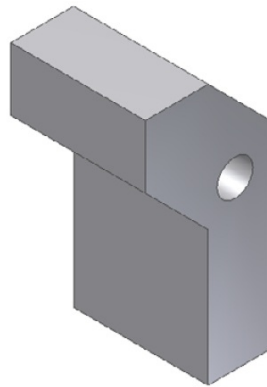

Figure 8-160 Base feature of the model
- a. Create the base feature with a hole on the YZ plane, refer to Figure 8-160.
1. Create the base feature of the model on the YZ plane, as shown in Figure 8-160. For dimensions of the base feature, refer to Figures 8-159b and 8-159c.